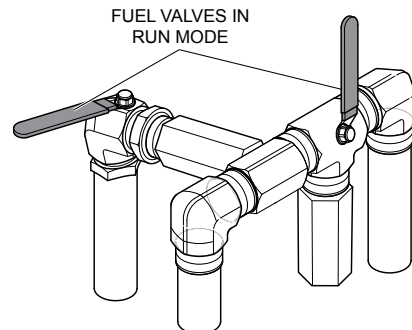

Figure 23. Fuel Valves (Run Mode)
4. After priming is complete, release the fuel priming switch. Place the fuel valves in the run mode (Figure 23).